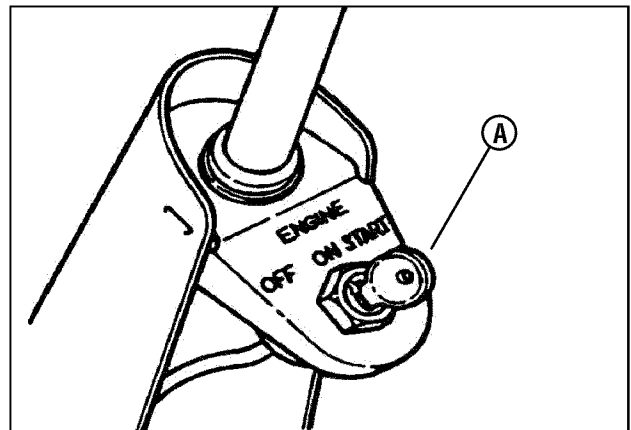

Figure 7: Ignition key
6. Turn the ignition key (A, Figure 7) to the “START” position until the engine starts.